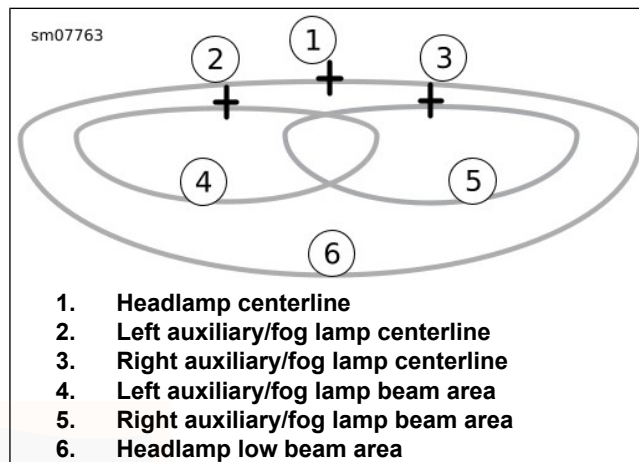

Figure 97. Headlamp Pattern: LED Type with Auxiliary/Fog Lamps
4. See Figure 97. Mark the auxiliary/fog lamp horizontal and vertical centerlines (2, 3) on the wall.
7. Turn on the headlamp low beam and cover both the headlamp and the right auxiliary/fog lamp. Adjust the left auxiliary/fog lamp so the entire high intensity zone (4) is below the centerline as shown in Figure 97.